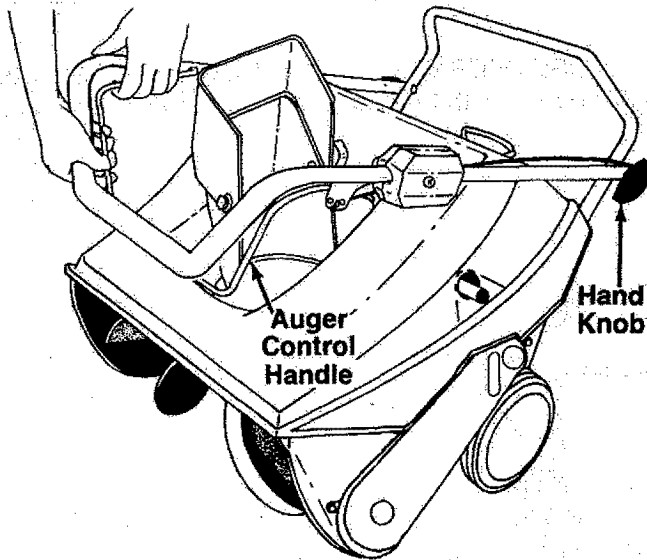

FIGURE 1.
- Loosen the hand knob on each side of the handle. Squeeze the auger control handle against the upper handle as shown in figure 1. Pull handle up into operating position. Retighten the hand knobs.